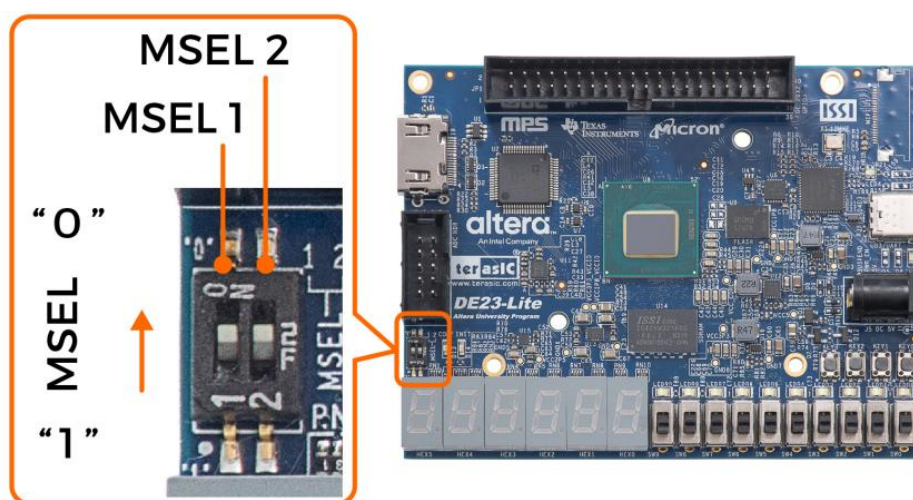

Figure 3-1 DIP switch (SW10) setting of Active Serial (AS) mode on DE23-Lite board
Figure 3-1 shows MSEL[2:1] setting of Active Serial (AS) Fast mode, which is the default setting on the DE23-Lite. When the board is powered on, the FPGA is configured from QSPI Flash, which is pre-programmed with a default configuration.